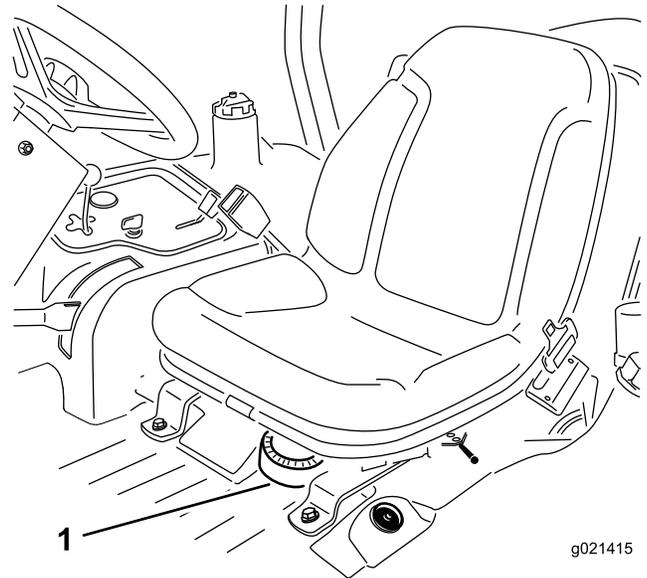

Figure 51
1. Remove the seat from the traction unit to access the fuel pump (Figure 51).